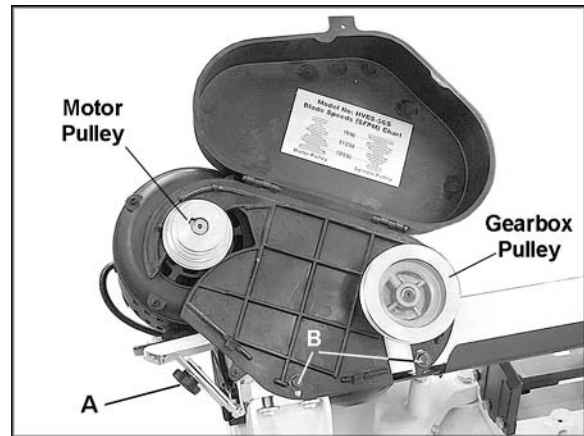

Figure 3
1. The knob (A, Figure 3) should be loosened so that the motor is allowed to drop freely.
2. Slide the pulley cover down over the pulley shafts as shown in Figure 3. (Slide it onto the gearbox pulley shaft first, then the motor pulley shaft.)
3. Secure the pulley cover with two 1/4-20 x 1/2" hex cap screws and flat washers (B, Figure 3) using a 10mm wrench. Use the slots to adjust the guard so that it will not interfere with the pulleys.
5. Tighten the knob (A, Figure 3).